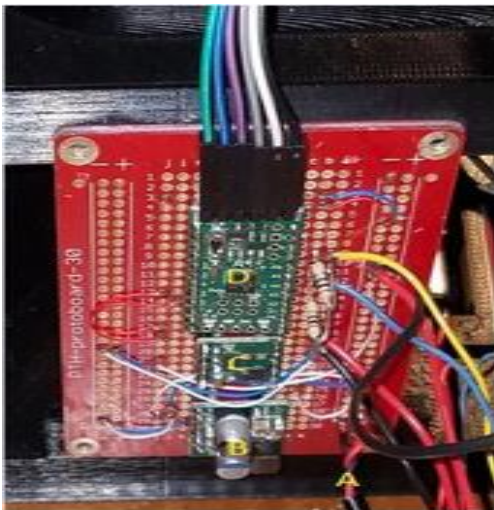

Figure 3a: System for 3D escalator
- **Figure 3a** was used for the 3D escalator to lift up the escalator and reverse back down. The ball will roll to the top track and then touches the laser sensor that is attached to the top track. Once it hits the touch sensor a LCD monitor will show a black text.